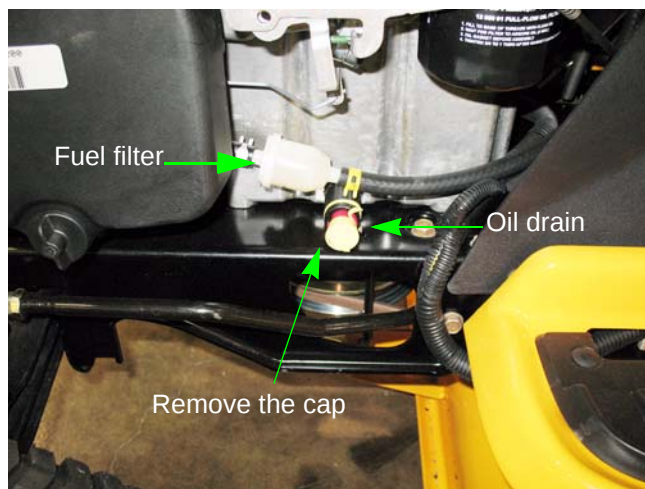

Figure 9.3
1. Remove the cap from the oil drain. See Figure 9.3.